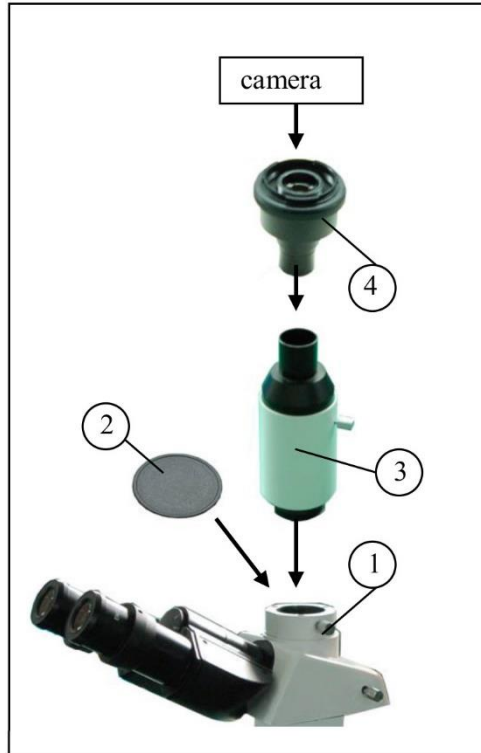

Figure 3
4.2.2. Installing the photography set (Figure 3)